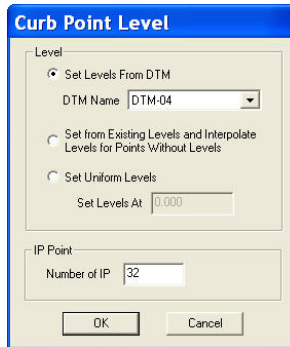

Figure 13-61. The Curb Point Level Parameters
- Click on one point that will be the starting point of the curb and the 0,00 distance on the profile of the curb in Curb View. The *Curb Point Level* dialog box appears (Figure 13-61).